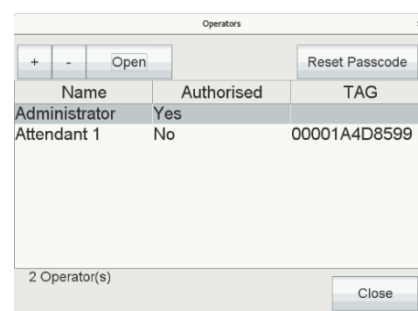

Figure 128: Operators Menu
3. The Operators window is displayed (see Figure 128), listing the Operators and Attendant Tags which have been Registered in the T-POS. Each registered Attendant Tag will be displayed, with an Authorised status of Yes or No.